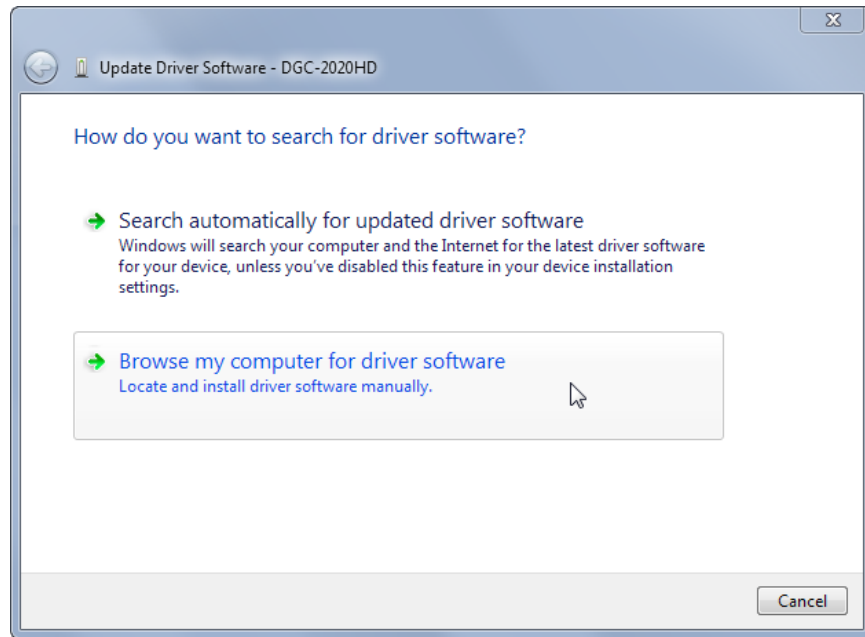

Figure 231. Update Driver Software - DGC-2020HD
Step 4. Select Browse My Computer for Driver Software as shown in Figure 231.